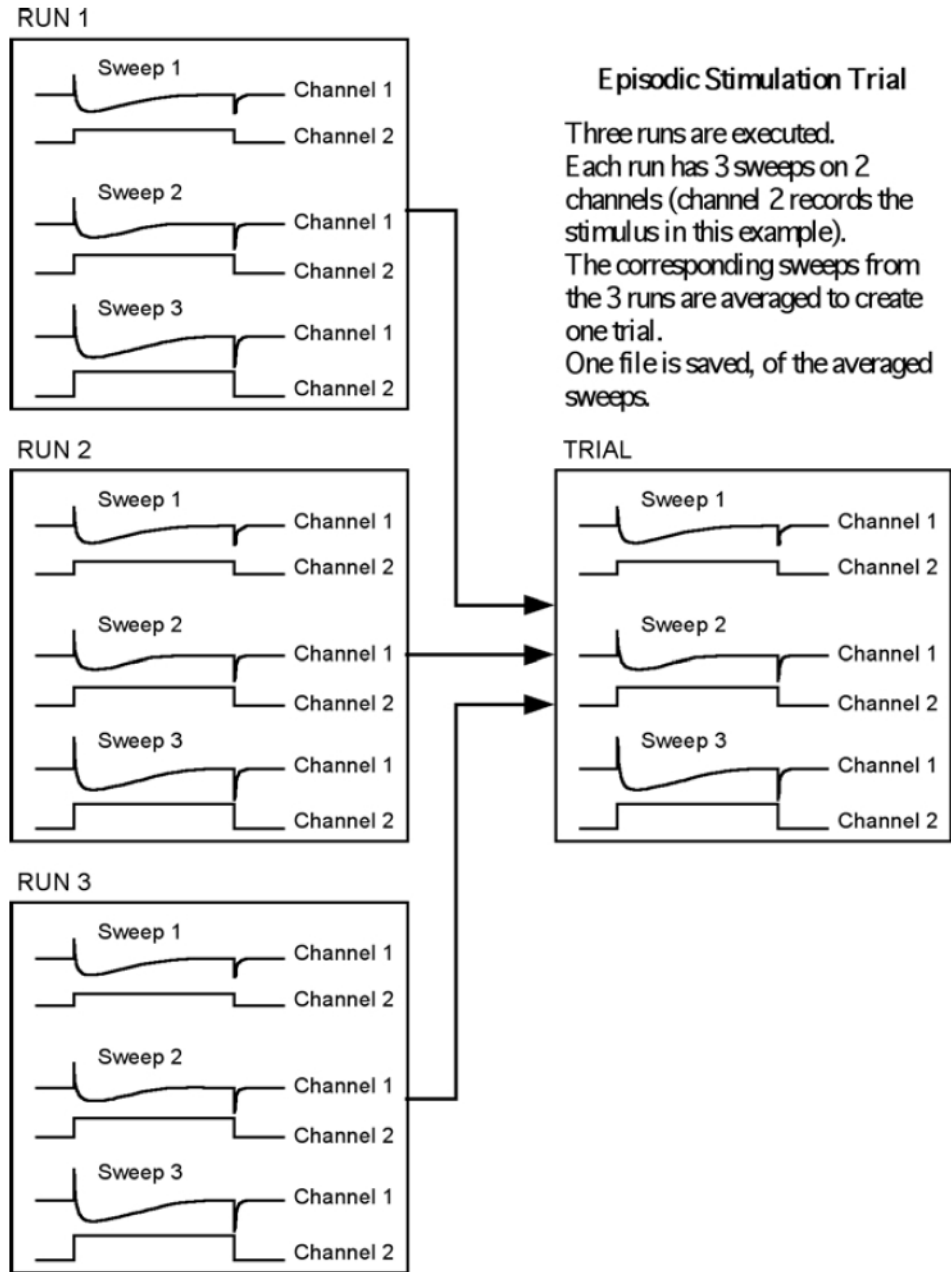

Figure 2-1: Clampex software data structure showing relationship between runs and trial.
- **Sweep** — the digitized data from all input signals for a defined number of samples. A sweep can contain up to one million samples, with all signals multiplexed at equal time intervals. A command waveform can be concurrently output during a sweep. See Figure 2-1 for illustration of the relationship between runs, sweeps, channels and trials.
- **Run** — a set of sweeps. Sweeps within a run may all be the same, or they can be configured to have amplitude and/or duration changes from sweep to sweep. A run can contain up to 10,000 sweeps. If multiple runs are specified, all sets of sweeps are averaged together to produce a single averaged set of sweeps. See Figure 2-1 for illustration of the relationship between runs, sweeps, channels and trials.
- **Trial** — the data digitized from one or more runs, and saved as a single file. See Figure 2-1 for illustration of the relationship between runs, sweeps, channels and trials.